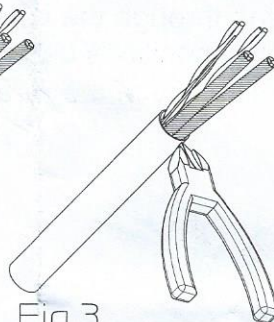

Fig.3
3) Remove shield from three pairs. Use clippers to cut-off foil (Fig. 3)